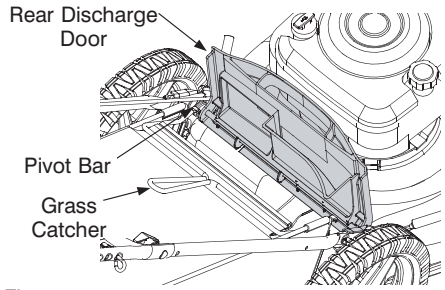

Figure 7
- Lift the rear discharge door on the mower, and place the grass catcher on the pivot rod. Let go of discharge door so that it rests on the grass catcher. See Figure 7.
- Lift the rear discharge door on the mower as shown in Figure 7. Lift the grass catcher up and off the pivot bar. Release the rear discharge door.